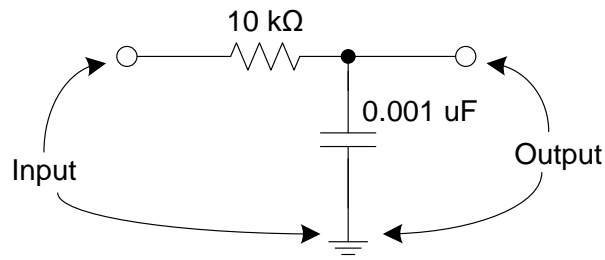

Figure 6. A simple RC circuit.
3.1 Build the RC circuit as given in Figure 6. on the breadboard. Leave the jumper wires for connecting input and output signals.